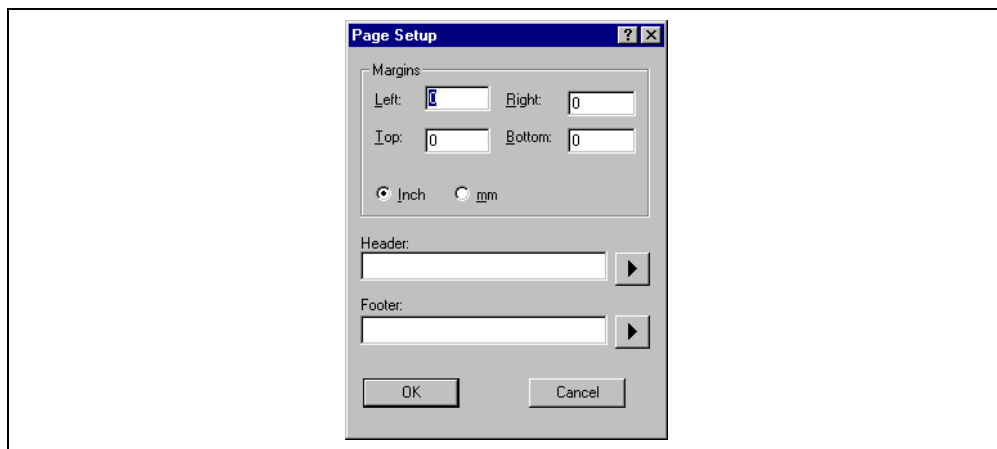

Figure 4.6: Page Setup Dialog
1. Select [**File->Page Setup...**]. The “Page Setup” dialog will be invoked * **MERGEFORMAT** (figure 4.6).
1. Select [**File->Page Setup...**]. The “Page Setup” dialog will be invoked (figure 4.6).